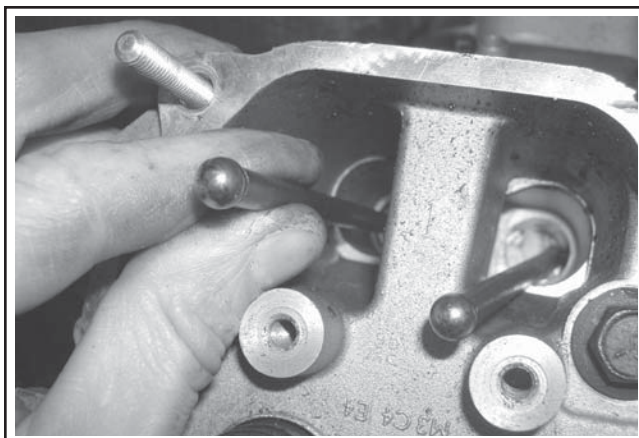

**Figure 10-34. Cylinder Head Fastener Torque Sequence.**
4. Torque the hex flange screws in two stages; first to **22.6 N·m (200 in. lb.)**, then finally to **41.8 N·m (370 in. lb.)**, following the sequence in Figure 10-34.